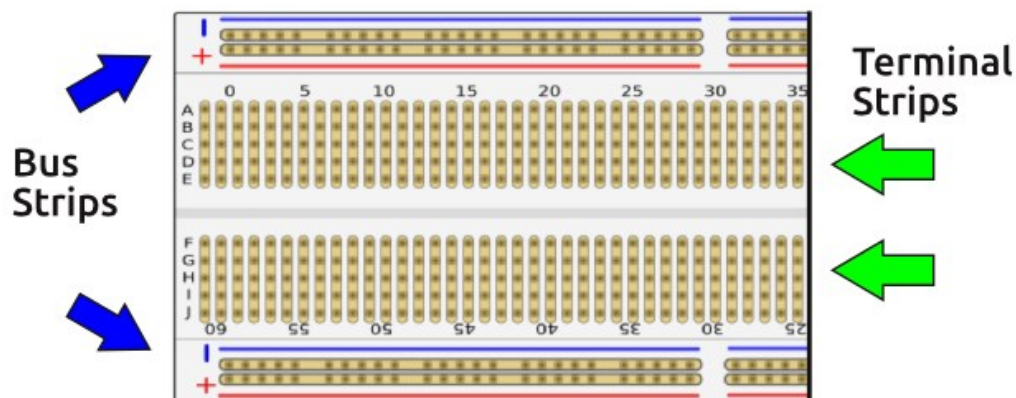

Figure 1. breadboard
- As shown in Figure. 1, the bus terminals are the long strips on the side where you connect power lines (+ve power supply and ground).
- As shown in Figure. 1, the terminal strips are the short strips in the middle where you will build your circuit.